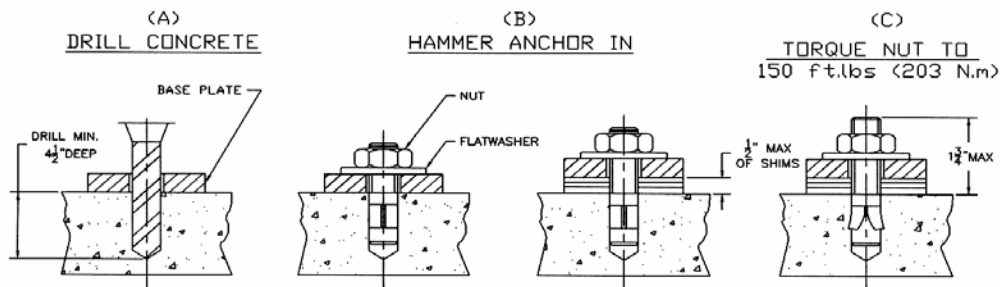

Figure 15 – Anchor Bolts
3. Refer to Bay Layout (**Figure 3**) to ensure that the column is still in the proper position. Using a rotary hammer drill with a 3/4" masonry drill bit, drill holes in the floor on the high side column using the tower baseplate as a template. Make sure that the 3/4" masonry drill is in good condition (**Figure 15**).
4. Carefully clean out drilling dust from the anchor holes. Hammer in the anchor bolts (**Figure 15**). Hand tighten all anchor bolts.
6. Torque all anchor bolts to 150 ft-lbs. (203 Nm), continually checking that the column is level as you proceed. If anchor bolts do not tighten to 150 ft-lbs. OR project more than 1 3/4" above the concrete surface (**Figure 15**), the concrete MUST be replaced by an appropriate concrete pad. (*Consult Product Manufacturer / Supplier for further details*).
2. Refer to Bay Layout (**Figure 3**) to ensure that the column is still in the proper position. Using a rotary hammer drill with a 3/4" masonry drill bit, drill holes in the floor on the low side column using the tower baseplate as a template. Make sure that the 3/4" masonry drill is in good condition (**Figure 15**).
3. Carefully clean out drilling dust from the anchor holes. Hammer in the anchor bolts (**Figure 15**). Hand tighten all anchor bolts.
5. Torque all anchor bolts to 150 ft-lbs. (203 Nm), continually checking that the crossmember and column are level as you proceed. If anchor bolts do not tighten to 150 ft-lbs. OR project more than 1 3/4" above the concrete surface (**Figure 15**), the concrete MUST be replaced by an appropriate concrete pad. (*Consult Product Manufacturer / Supplier for further details*).